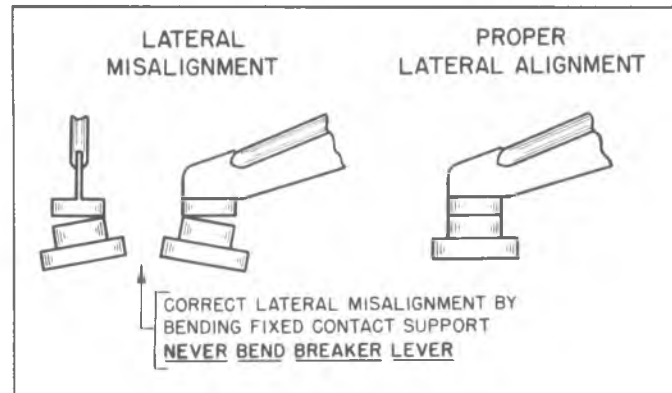

Fig. 16i—Alignment of Points
1. If necessary, align points (fig. 16i) by bending the fixed contact support. Do not bend the breaker lever. Do not attempt to align used points; replace them where serious misalignment is observed. Use an aligning tool if available.